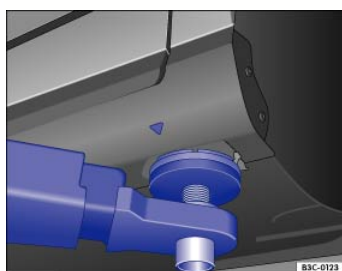
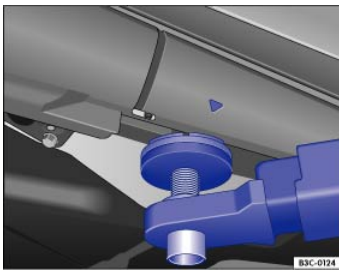

Fig. 196 Front lift point for workshop hoist or floor jack.
Fig. 197 Rear lift point for workshop hoist or floor jack.
The vehicle may only be raised at the lift points shown in illustrations and ⇒ Fig. 197. If the vehicle is lifted at different points, vehicle damage ⇒ ⓘ and serious injuries may occur ⇒ ⚠.
- Always lift your vehicle only at the designated lift points shown in the illustrations ⇒ Fig. 196 and ⇒ Fig. 197. Not using the designated lift points can cause the vehicle to fall off the floor jack when heavy parts such as the engine or transmission are removed.